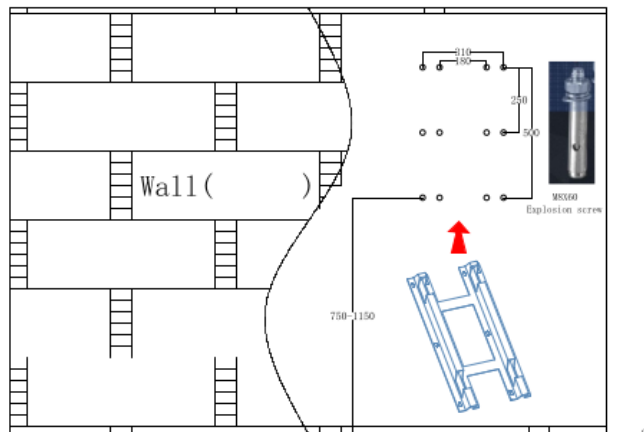

Figure 5
(1).Drill 4-12 holes suitable for M8X60 explosive screws on the mounting wall surface as shown in figure 5 , and install the explosive screw.